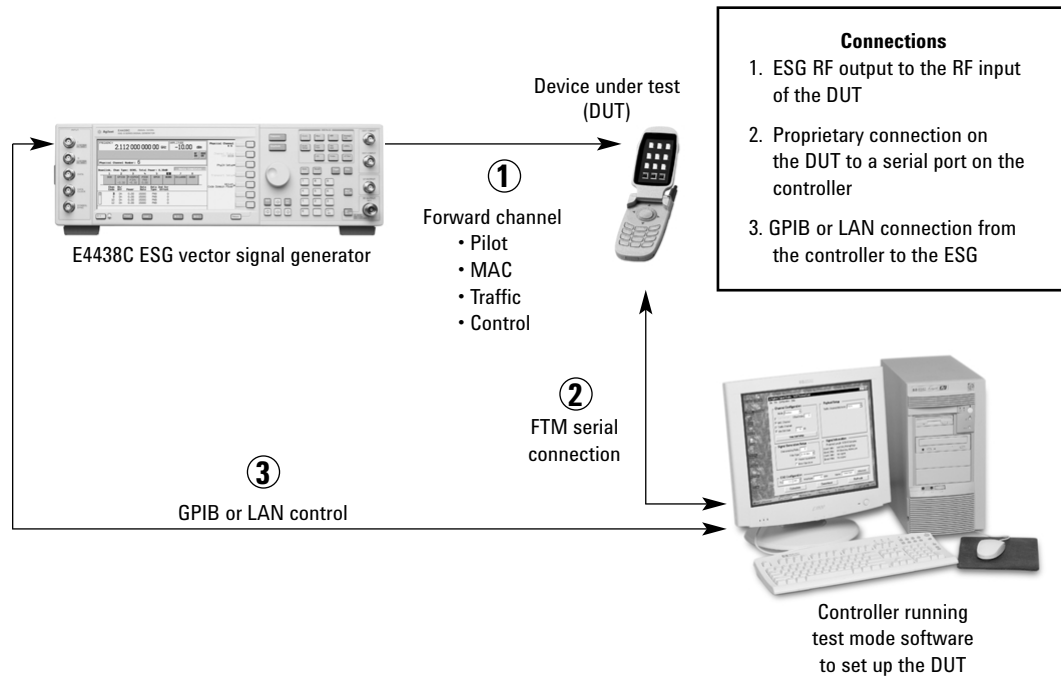

Figure 27. Typical measurement setup to perform AT receiver measurements
To illustrate the ease with which these tests can be performed, two examples are given below: channel power and ACP. Following these, an example AT receiver test setup is shown in Figure 27.
The E4438C ESG vector signal generator with the 1xEV-DO Signal Studio software forward link FTM interface provides a fully coded forward link signal for access terminal (AT) receiver test. A typical test setup is shown in Figure 27. The PC controller is required to initiate factory test mode in the AT, step the AT through the call setup process (such as acquire pilot, acquire sync, and demodulate traffic channel), and perform PER analysis on the received signal from the ESG.
In Figure 27, the ESG provides a fully coded forward link signal for analysis. The controller is responsible for initiating FTM in the AT, stepping it through the call setup process, and performing PER measurements on the received signal.